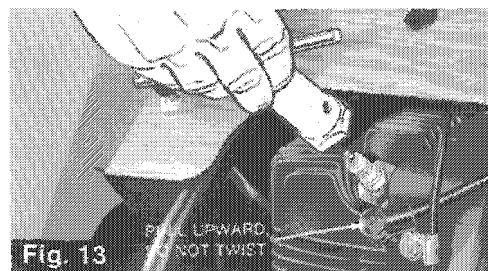

Fig. 13
2. Remove spark plug(s) using box wrench supplied in the tool kit (See Fig. 13)